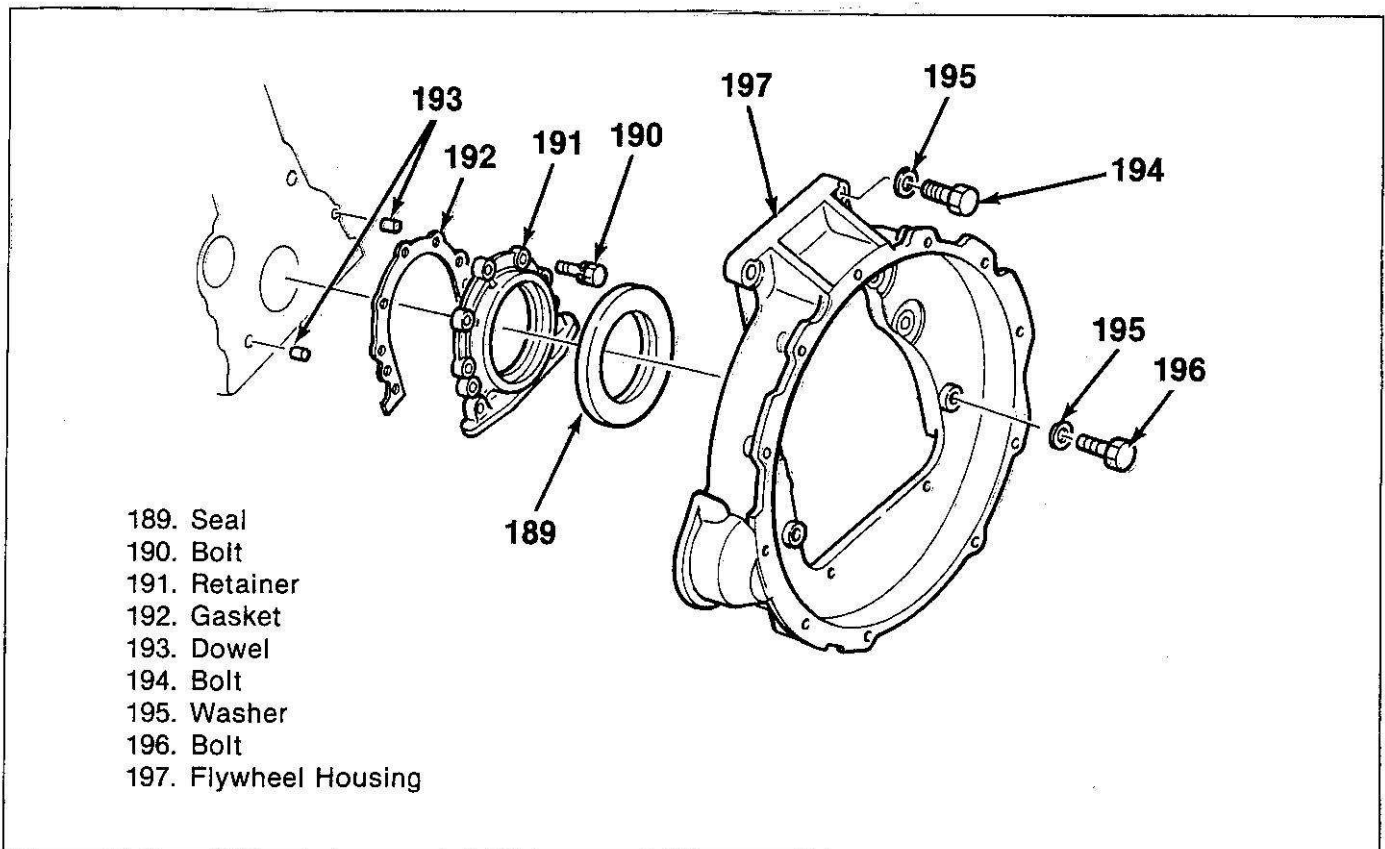

Figure 103. Rear Crankshaft Seal and Retainer
Remove or Disconnect (Figure 103)
1. Apply grease to the seal (189) lips.
2. Seal (189).
- The open (spring) side of the seal must face the engine, block (figure 103).
3. Gasket (192) and retainer (191) to cylinder block (figure 103) in "Flywheel Replacement".
Clean (Figure 103)
Inspect (Figure 103)